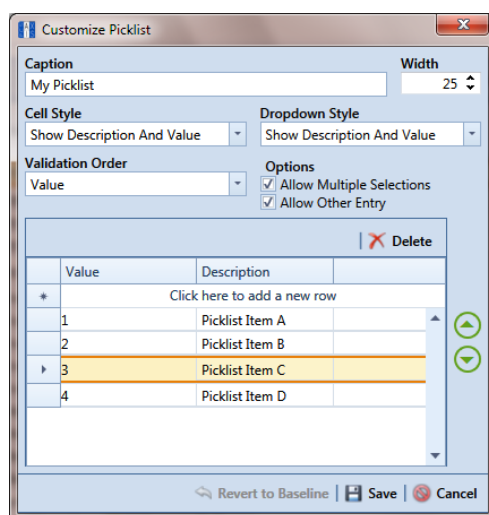

Figure 3-39. Customize Picklist
- 4 Click  **Picklist** in the toolbar to open the *Customize Picklist* dialog box (Figure 3-39).
- a** Click the message *Click here to add new row* to add an empty row of fields for data entry (Figure 3-39, page 80).